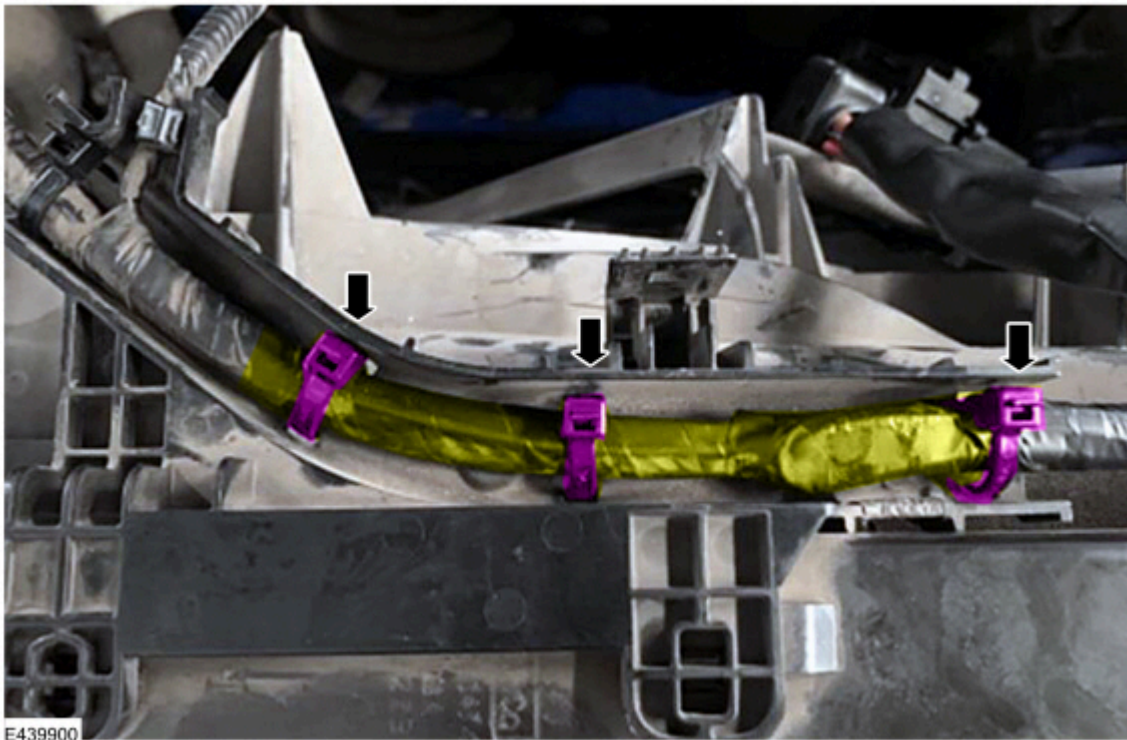

Figure 13
5. Remove the PVC tube and tape on the cooling fan wiring to repair (only the affected area). (Figure 13)